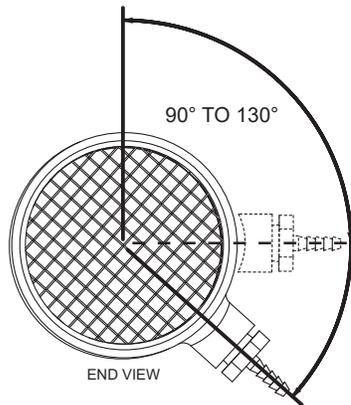

Figure 18. Orientation of Intake Air Tee Fitting
Ensure the hose barb installed in the Tee fitting *is not* facing down towards the ground (180° - 6 o'clock position) before venting installation begins. The barb fitting must be angled between 90° and no more than 130° as shown in **Figure 18**. If the barb fitting is facing down, residual condensate that occasionally forms in the intake air pipe can drain into the Blocked Intake Air switch through the attached sensing tube and damage the switch. This condition can also lead to Blocked Intake Air fault conditions and associated control system lock outs.
The intake air Tee fitting is factory-installed with the 1/2 inch branch and hose barb angled to the right at approximately 130° when viewed from the end, see **Figure 18**. The Tee fitting's 1/2 inch branch and hose barb must not be angled any lower (towards the ground) than this factory specification. Angling higher, up to a 90° position, will not adversely affect operation and is acceptable.
Inspect the angle of the Tee fitting's 1/2 inch branch and hose barb while viewing from the end of the Tee. See **Figure 18**. If the angle of the Tee fitting 1/2 inch branch and hose barb is lower than shown, adjustment will be necessary. To adjust the intake air Tee fitting angle follow the steps listed below.
4. Adjust the angle of the Tee fitting so that the 1/2 inch branch and hose barb are at the proper angle as shown in **Figure 18**.